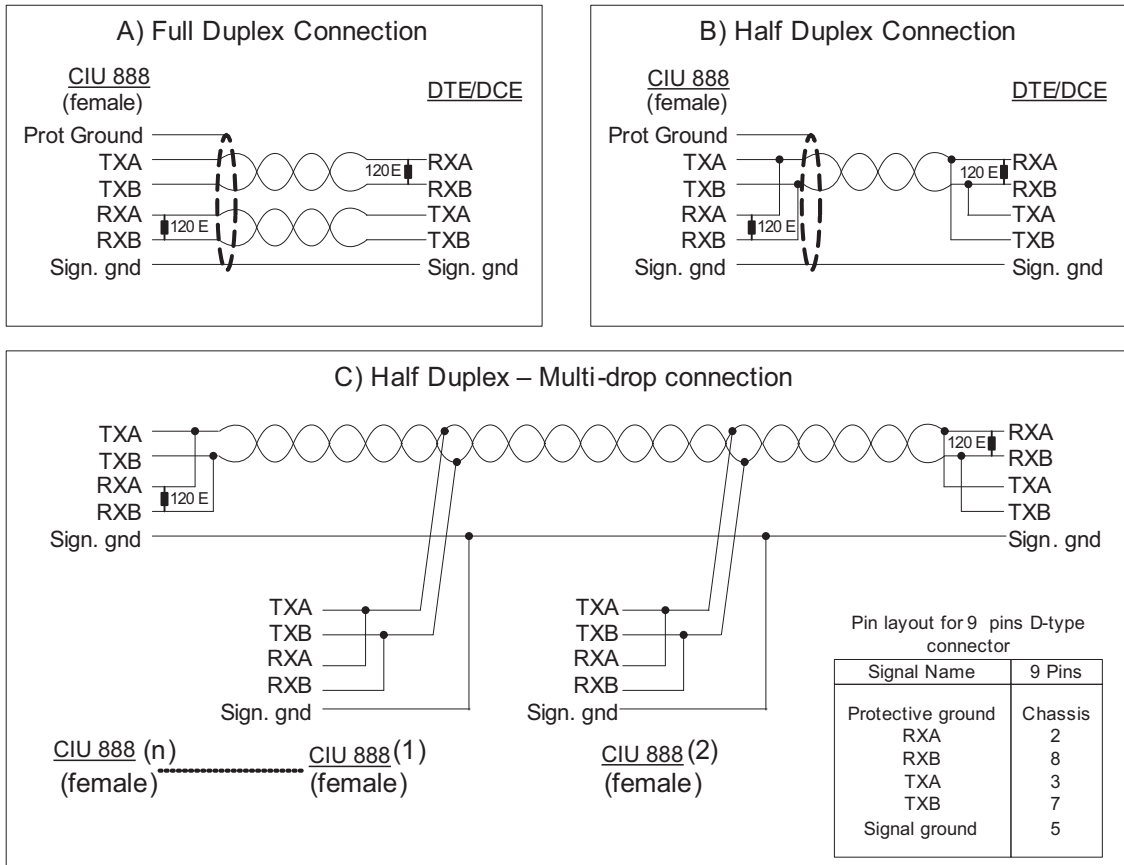

FIGURE 4-7
See FIGURE 4-7 for RS-485 pin configurations and connections.
See FIGURE 4-7 (A) for full duplex RS-485 connection or FIGURE 4-7 (B) when a half duplex RS-485 connection is required. For half-duplex connect signals RXA with TXA and RXB with TXB inside the cable connectors. Place 120 Ω resistors at the receive terminals in the cable connectors.